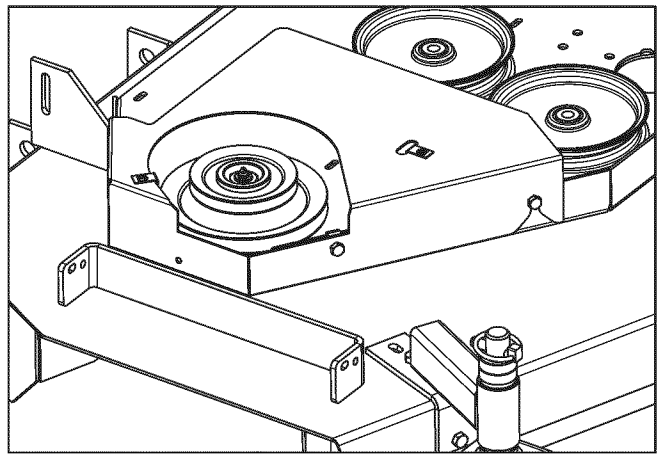

Figure 24. Install Guard
1. Install the new deck guard onto the mower deck and secure with the hardware previously removed (see Figure 24).